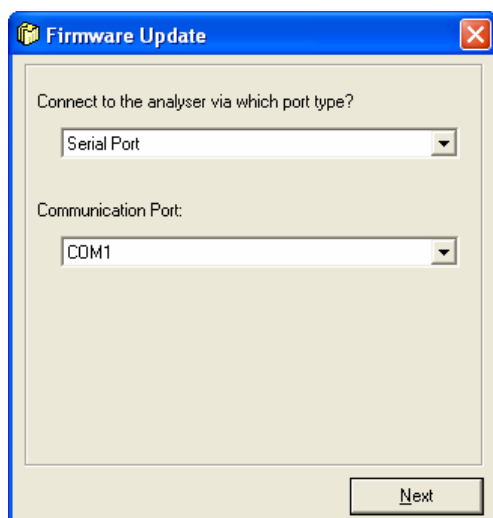

Figure 38 Communications Window.
12. The Firmware Updater window will show each step as the firmware is uploaded. **DO NOT** turn the analyzer off until the 'Close' button is enabled as shown in Figure 38.